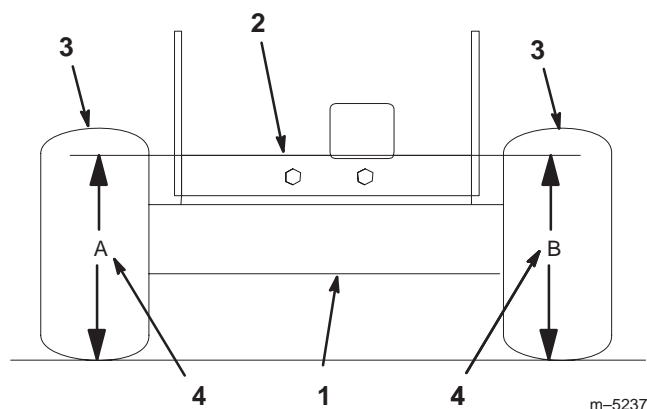

Figure 53
- Measure engine deck height at location **A** (Fig. 53).
- Measure engine deck height at location **B** (Fig. 53).